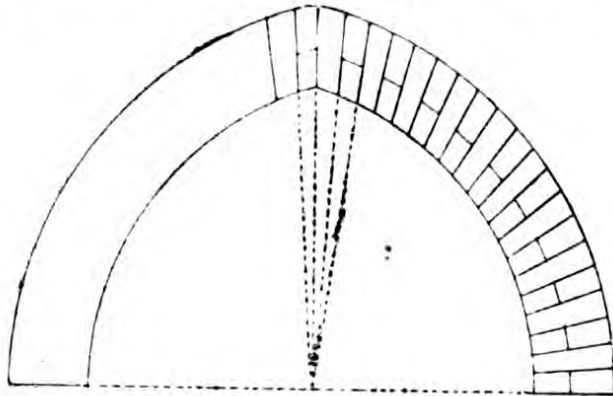

Fig. 57.
They are also obtainable 12 inches long, but bricks this length are only required for Camber arches, or Gothic arches whose bed joints radiate from the centre, as in Figs. 57 and 58, in which so much of the brick is cut away to form the long bevels on the soffit and crown, that the ordinary sized bricks will not "hold out" to the required lengths, and have therefore to be lengthened, where necessary, by forming the long "stretchers" out of two three-quarter bricks (this will be best understood by examining a few actual camber arches); to obviate which, the 12 inch bricks are made.
*h* draw the curves on the right-hand side. The bed joints radiate from *h* and *g*, as shown by dotted lines. To do away with the very wedge-shaped key, the joints are sometimes radiated from the centre, as in Fig. 57. This key is also
a circle, and the mould is obtained in the same way as that for the segment. The moulds for Figs. 57 and 58 are obtained in the same way as that for the camber, the bricks being all of a different bevel and length. These like the camber are *schemes*, not arches, as the bed joints do not fall within the *lines of radii*.